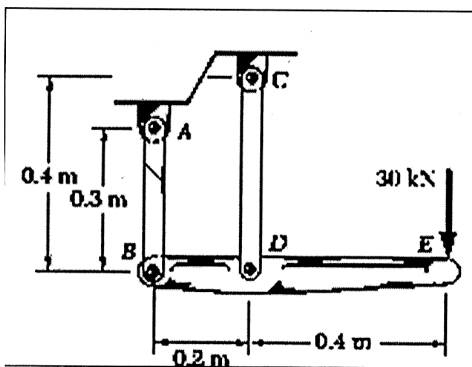

Fig. Q1
**Q1.** The rigid bar  $BDE$  is supported by two links  $AB$  and  $CD$  (**Fig. Q1**). Link  $AB$  is made of aluminium ( $E = 70$  GPa) and has a cross-sectional area of  $500 \text{ mm}^2$ . Link  $CD$  is made of steel ( $E = 200$  GPa) and has a cross-sectional area of  $600 \text{ mm}^2$ . For the  $30 \text{ kN}$  force shown, determine the deflection (i) of  $B$ , (ii) of  $D$ , and (iii) of  $E$ .